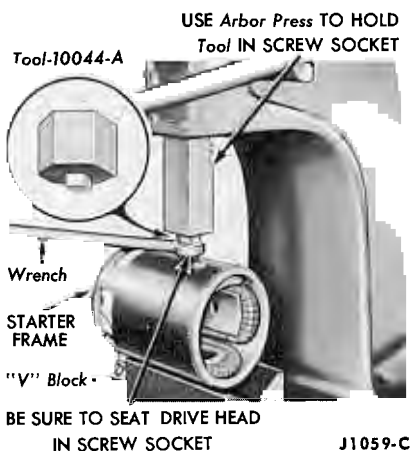

FIG. 3—Pole Shoe Screw Removal
screws, using tool 10044-A and an arbor press (Fig. 3). The arbor press prevents the wrench from slipping out of the screw. Unsolder the field coil leads from the terminal screw, and remove the pole shoes and coils from the frame (use a 300-watt iron).
2. Position the coils and pole pieces, with the coil leads in the terminal screw slot, and then install the retaining screws (Fig. 3). As the pole shoe screws are tightened, strike the frame several sharp blows with a soft-faced hammer to seat and align the pole shoes, then stake the screws.